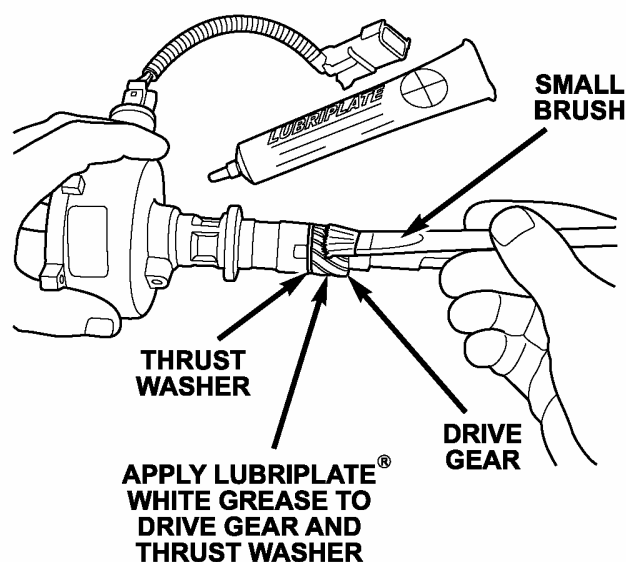

Figure 9
17. Using a small brush, lubricate the new drive gear and thrust washer on the oil pump drive with Lubriplate (P/N 04549615) white grease (Figure 9).